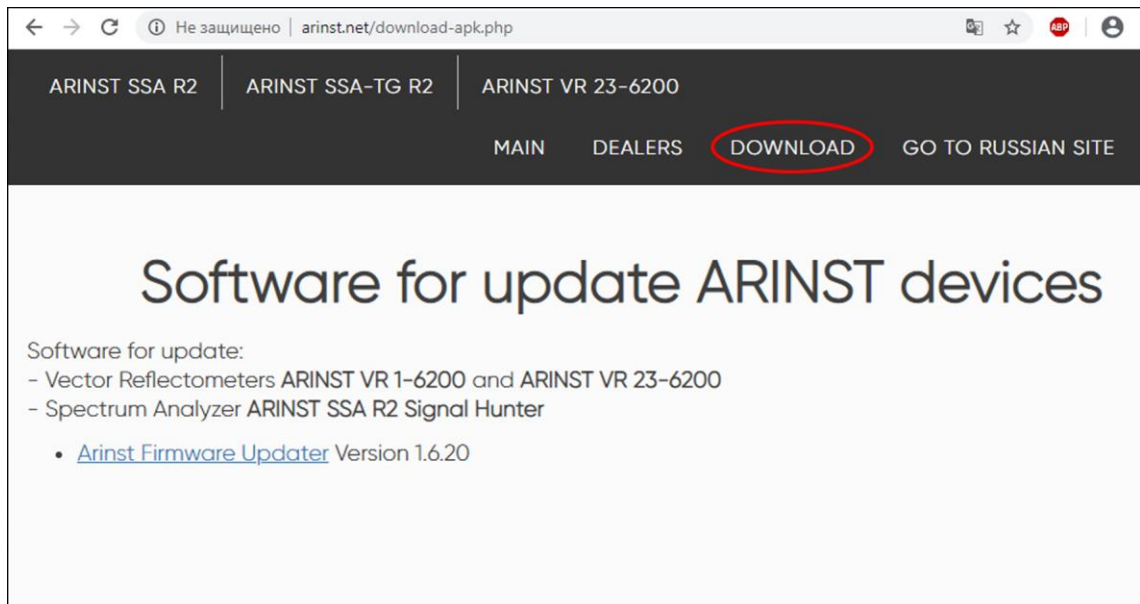

Figure A1.1 - Download software for updating the device
1.1. Visit the official ARINST website by typing in the address bar of your browser www.arinst.net. Go to the **DOWNLOAD** section and click on the file *ARINST Firmware Updater* to upgrade the spectrum analyzer ARINST SSA R2 Signal Hunter firmware (Figure A1.1).